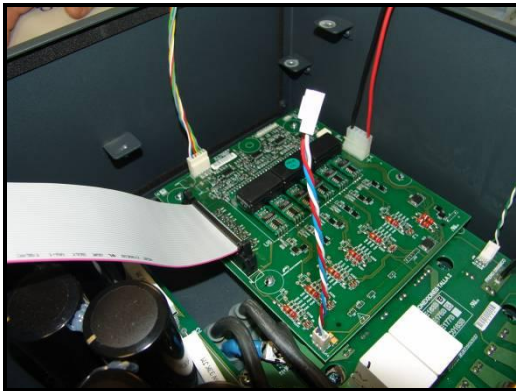

Figure 7.2.9. Disassembly of the gate drive board
See figure 7.2.9:
- 4) Put the board in the correct position as the figure 7.2.9 shows, matching the holes.